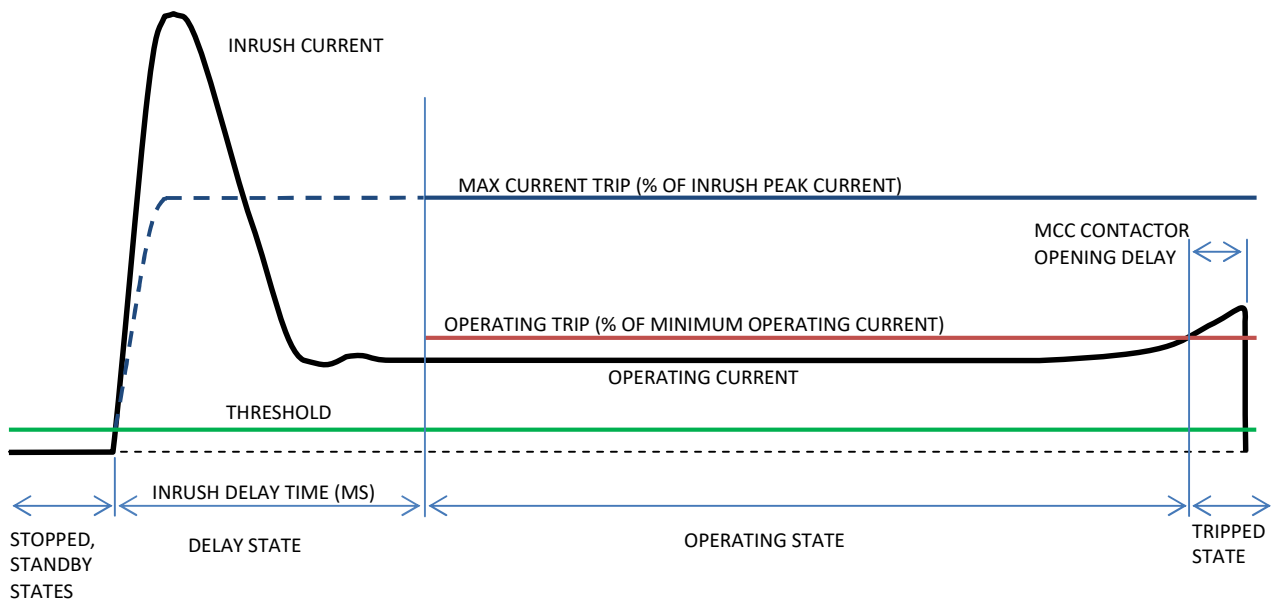

Figure 1: Typical Test Sequence
- 4.10 Figure 1 shows a hypothetical current trace (not to scale) for a run. The relay progresses through various states according to the sensed current.